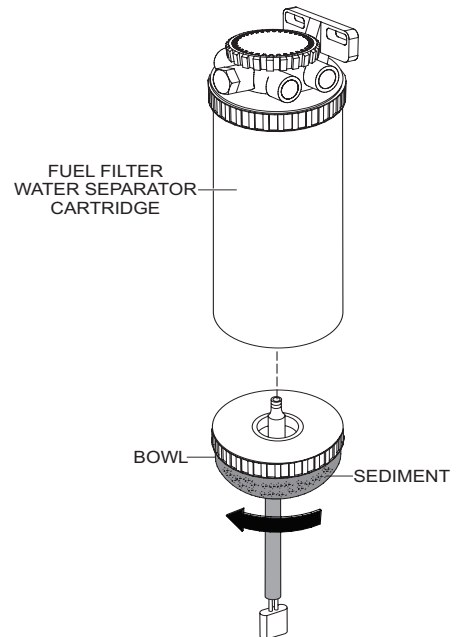

**Figure 70. Fuel Filter Cartridge Replacement**
1. Using a **filter wrench**, remove the **fuel filter cartridge** from the filter head (Figure 70).
2. Wipe the inside of the **filter head** (Figure 70) with a clean cloth to remove any foreign matter or debris that may have accumulated.
3. Replace both **gaskets** (Figure 70). Coat each gasket with a small amount of clean 15W-40 engine oil.